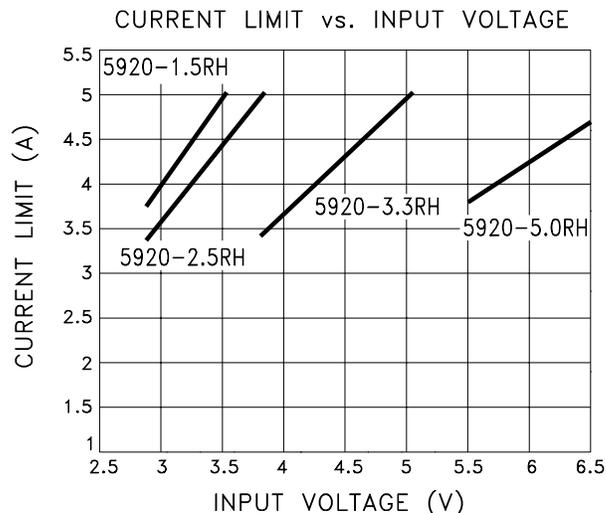

FIGURE 1
- ⁽⁷⁾ Output current limit is dependent upon the values of V_{IN} and V_{OUT}. See Figure 1 and typical performance curves.
The MSK5920RH current limit function is directly affected by the input and output voltages. Figure 1 illustrates the relationship between VIN and ICL for various output voltages. It is very important for the user to consult the SOA curve when using input voltages which result in current limit conditions beyond 4.5 Amps. When using input voltages which result in current limit above 4.5 Amps, the user must maintain output current within the SOA curve to avoid damage to the device. Note that 5 Amp maximum is due to current carrying capability of the internal wirebonds.